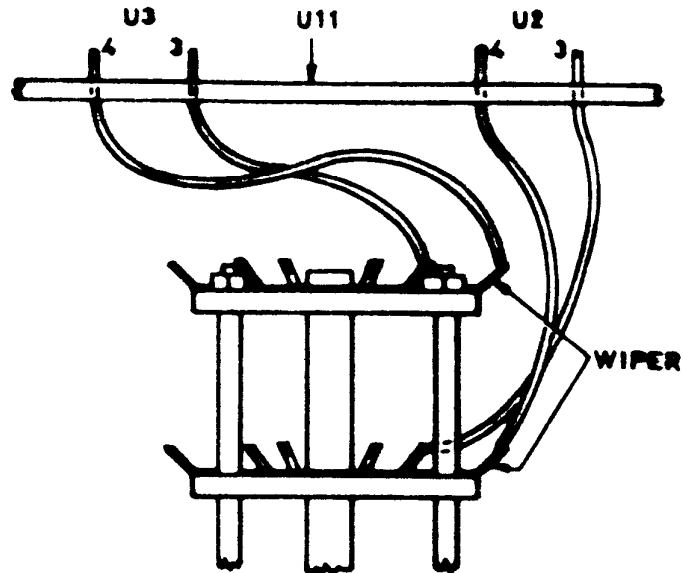

Figure 3-17 U2/U3 Connections to Switch SW1
- (1) Resolder four leads removed in step a. (2) to channel select switch SW1 as shown in figure 3-17.